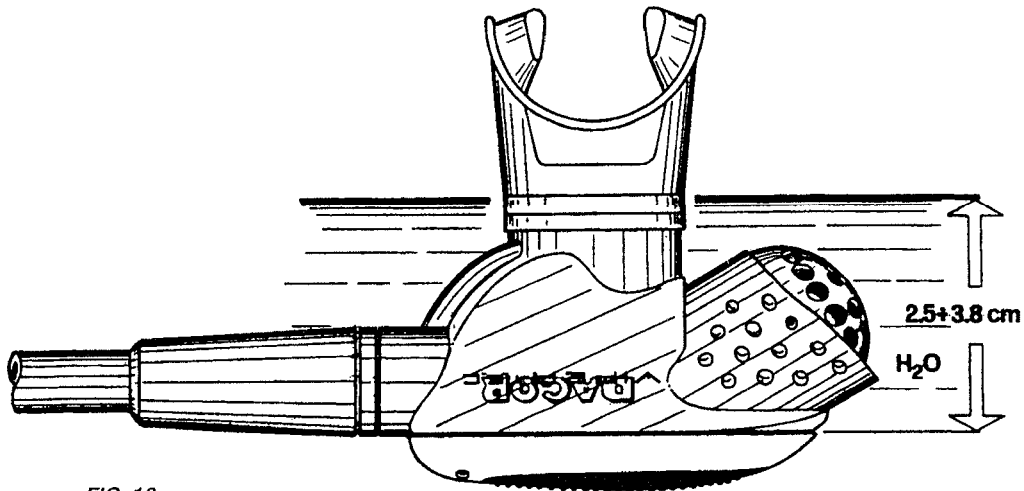

FIG. 10
- B. WHEN THE WATER LEVEL, MEASURED ON THE MOUTHPIECE FITTING WITH REFERENCE TO THE POINT INDICATED IN THE DIAGRAM (FIG. 10), FALLS BETWEEN THE CRACKING VALUES INDICATED IN "TABLE A", THE AIR MUST START TO FLOW.
THE SECOND STAGE CASE AND COVER (FIG. 10)